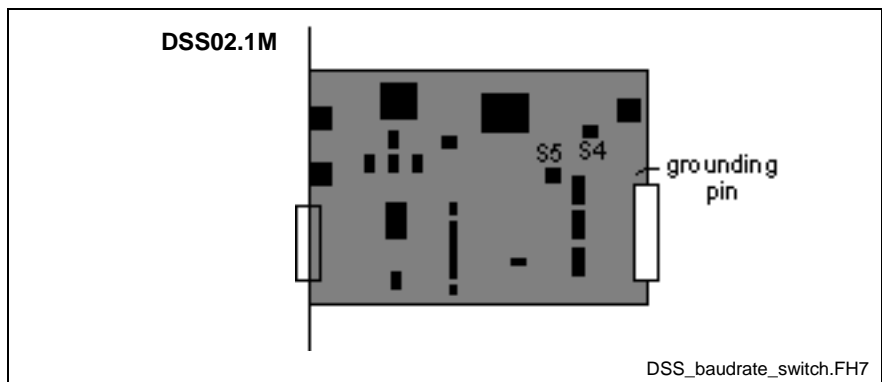

Fig. 9-11: DIP Switches on DSS02.1M
**PPC-R** The transmitter output power (TX) on the PPC-R is set with control parameter C-0-0020, Transmitter Fiber Optic Length. When using plastic fiber optic cable assemblies, set this parameter to match the length of the cable that is used between the PPC-R and the first drive's receiver (RX). When using glass fiber optic cable assemblies, set this parameter to 50m.
**DIAX04 (DSS02.1M)** The transmitter output power (TX) on the DSS02.1M is set via DIP switches S5A and S5B. Refer to Fig. 9-11.